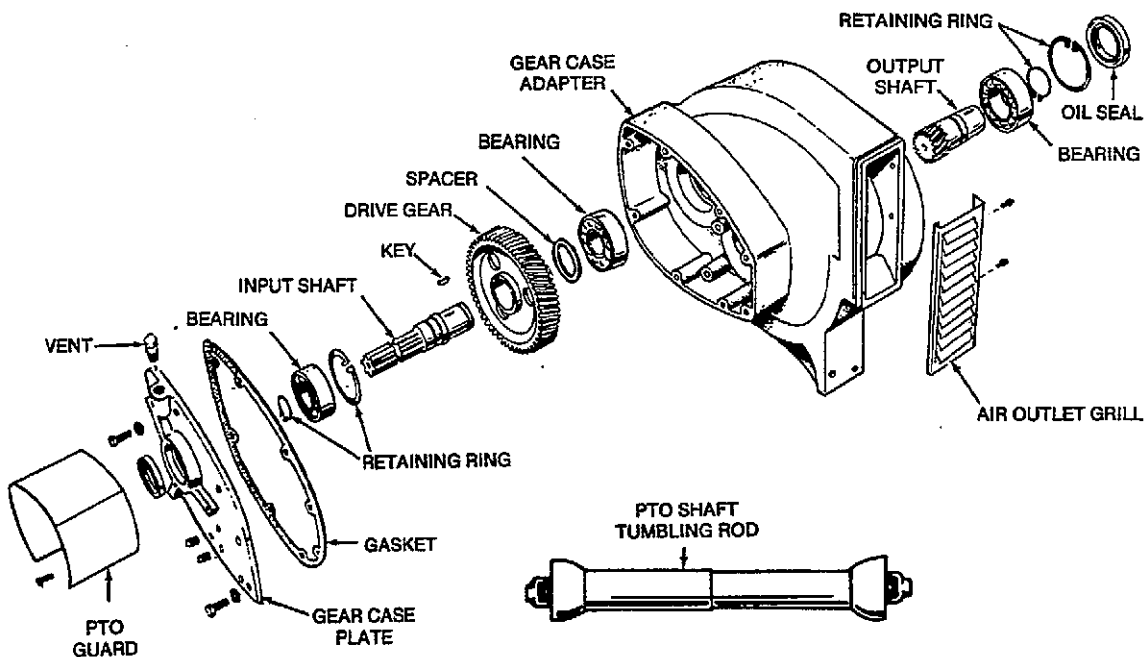

FIGURE 47. GEAR CASE ASSEMBLY
1. Remove PTO guard by loosening three 5/16 x 1/2-inch locking screws, Figure 47.